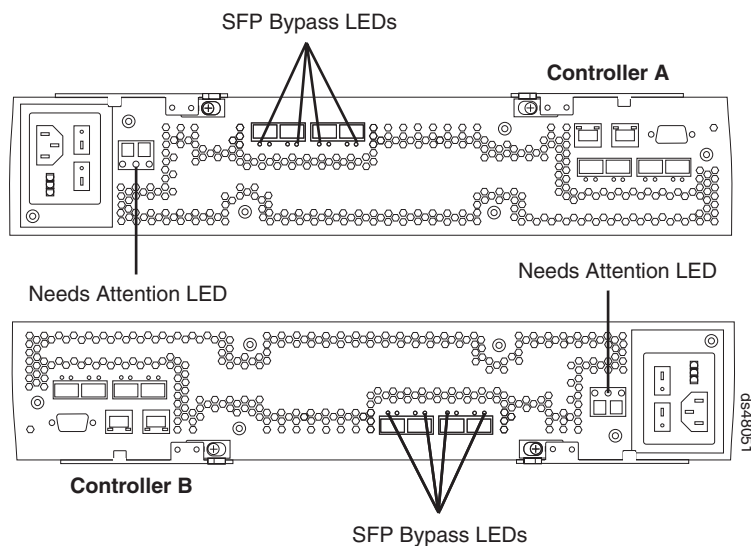

Figure 101. Needs Attention and SFP Model Bypass LEDs
3. Locate the failed SFP module by checking the SFP Bypass LED and Needs Attention LED on the controllers. If a fault is detected, the LEDs are lit. Figure 101 shows the location of the controller SFP Bypass LED and Needs Attention LED on the controller.